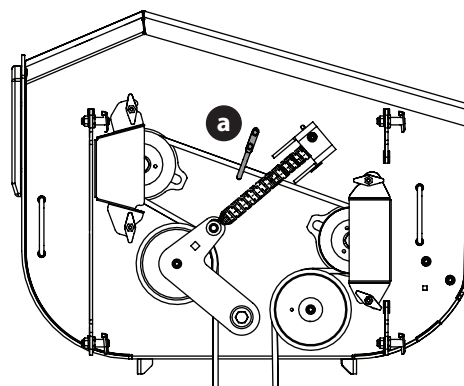
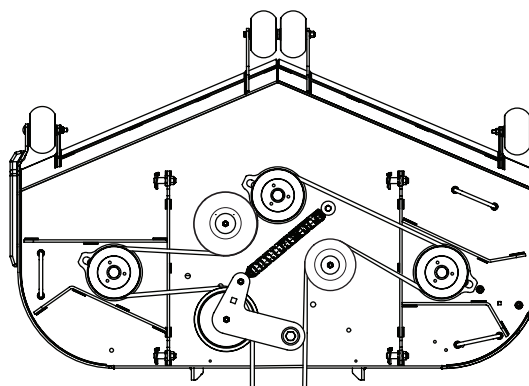

Figure 20
Figure 21
- Remove the belt from around the pulleys. On 36" decks, a belt keeper rod (a) will also need removed. Remove the two bolts securing the belt keeper rod (a) to the deck (Figure 20).
- Route the new belt as shown in Figure 20 for 36" decks and Figure 21 for 48" and 54" decks. Then reinstall the deck.